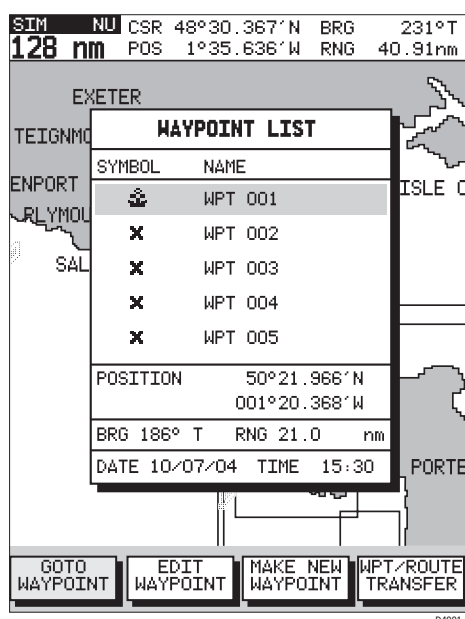

Figure 5-1: Waypoint List Display
3. Select **WAYPOINT LIST** and press **ENTER** to display the Waypoint List. The Waypoint List and associated function bar are displayed (see *Figure 5-1*). The list details all waypoints. The selected waypoint is indicated by the highlight bar with its position; bearing and range are provided (if GPS fix available).